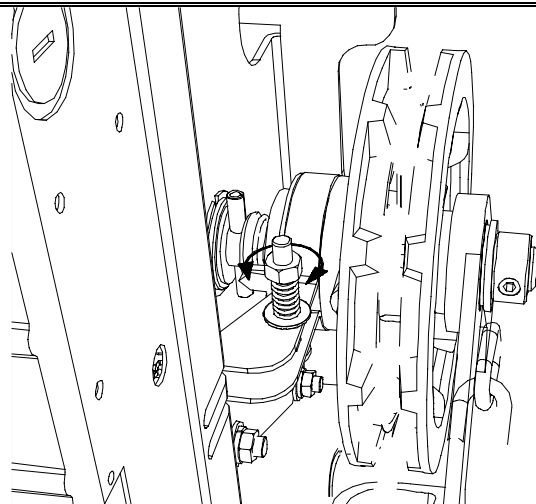

Figure 15 Manual operation system adjustment
3. The automatic hoist engagement system is adjusted in the factory. It may require adjustment in the field. Adjustment is necessary if no door movement occurs after two fetes of pulled hand chain. Turn the adjusting nut clockwise (see figure 15) by $\frac{1}{4}$ turn until the hoist engages after pulling one foot of chain. If the nut is too tight, the manual torque on the chain will be too heavy.